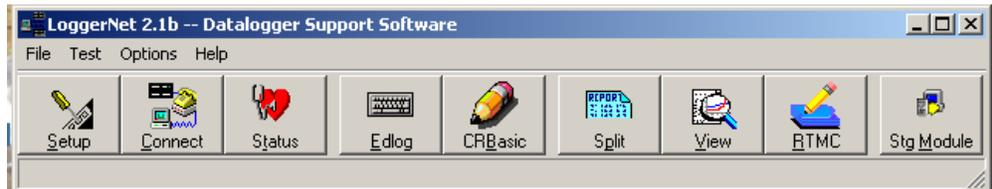

Figure 11
1. Once the CR23X datalogger has been replaced, return to the collector computer and access the **LoggerNet** menu bar (see Figure 11).